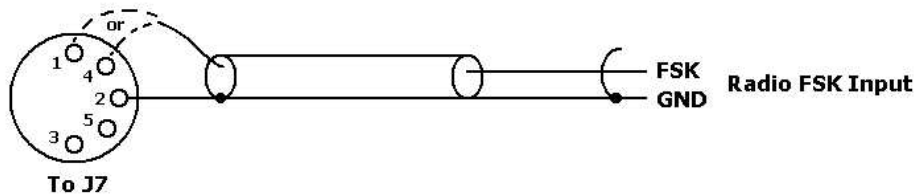

Figure 3-4 Connector J7 FSK Connections
2. Connect the FSK lines from the PK-232 to your radio's FSK input in accordance with your radio's requirements. See Figure 3-4 below.